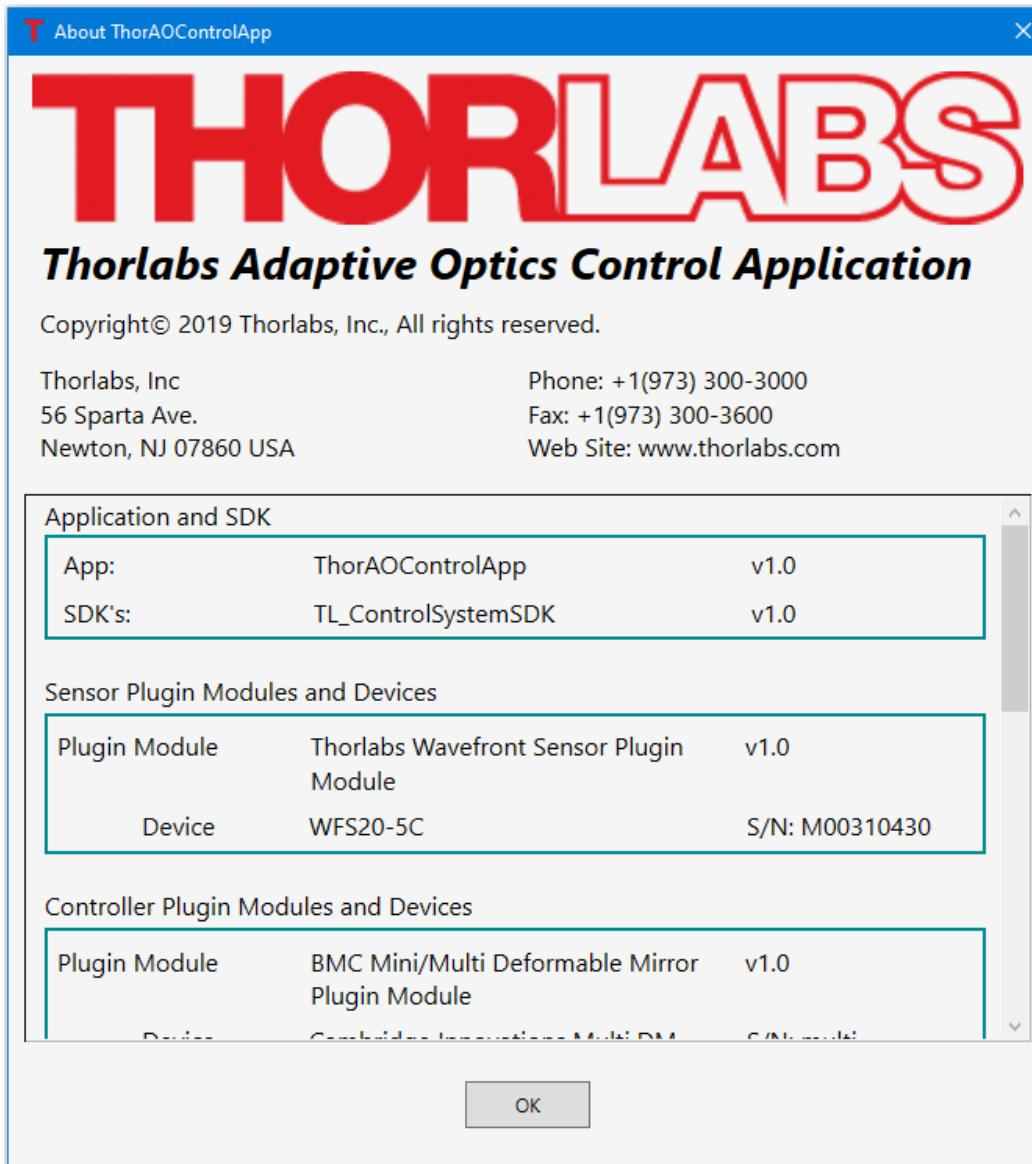

Figure 67 **About Window**
- **About ThorAOControlApp** () –The About window, as shown in Figure 67, gives Thorlabs' contact information and also provides the information about installed software, plugin and extension module version, and the connected devices. When the DM and the SH devices are found, their information, such as model and serial numbers, will be displayed. Please have this information ready when contacting Thorlabs for technical support.